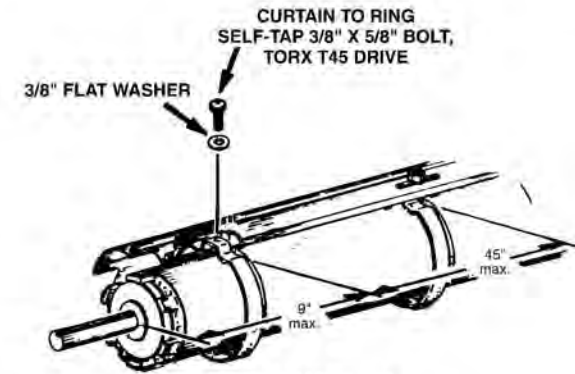

FIGURE 14
- If the barrel has rings, hold the top slat on the rings and make holes in the top slat aligned with holes in rings. Use drill/driver to attach top slat to rings with 3/8" round head TORX screws and washers provided. Set the drill/driver clutch to minimum torque required to drive screws. DO NOT USE IMPACT WRENCH because it will strip the screw threads in rings. See Figure 14.